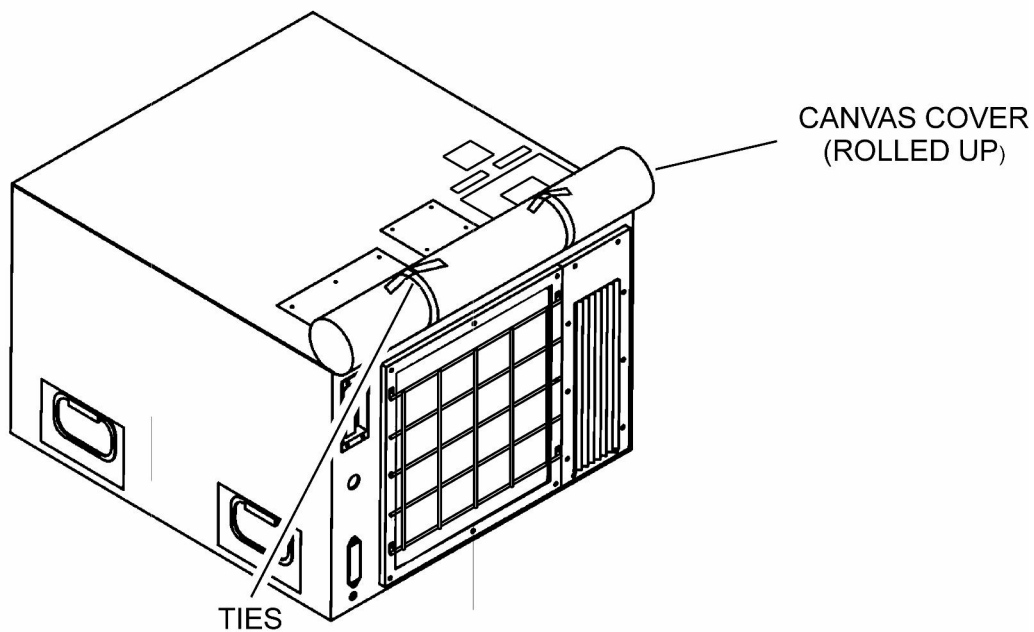

Figure 1. Canvas Cover
3. Roll up and tie the canvas cover. See Figure 1.